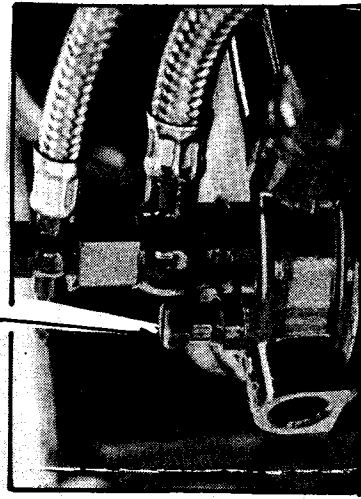

Figure 15
- a) Loosen the screw (1) located at the filter-holder cap and when bubbles are not delivered, said screw shall be tightened (Fig. 15).